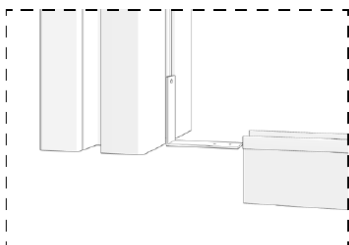
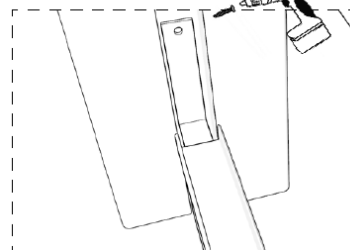

FIG. 8 – LOWER RAIL LOCATED AGAINST THE POST
FIG. 10 – BRACKET FIXED WITH SELF-TAPPING SCREWS
- 01 Locate the lower rail against the post and connect it on both sides with a 65 × 70 mm L-shaped bracket (figs. 8–9). Following the screw-hole positions on the bracket, fix with one 3.9 × 32 mm self-tapping screw and two 3.9 × 9.5 mm screws (fig. 10).